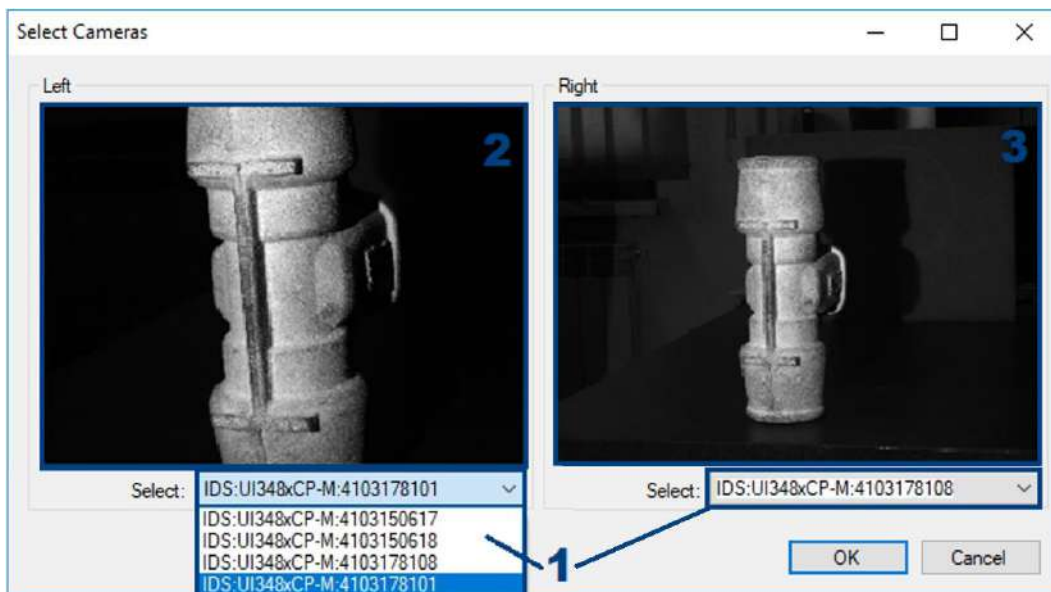
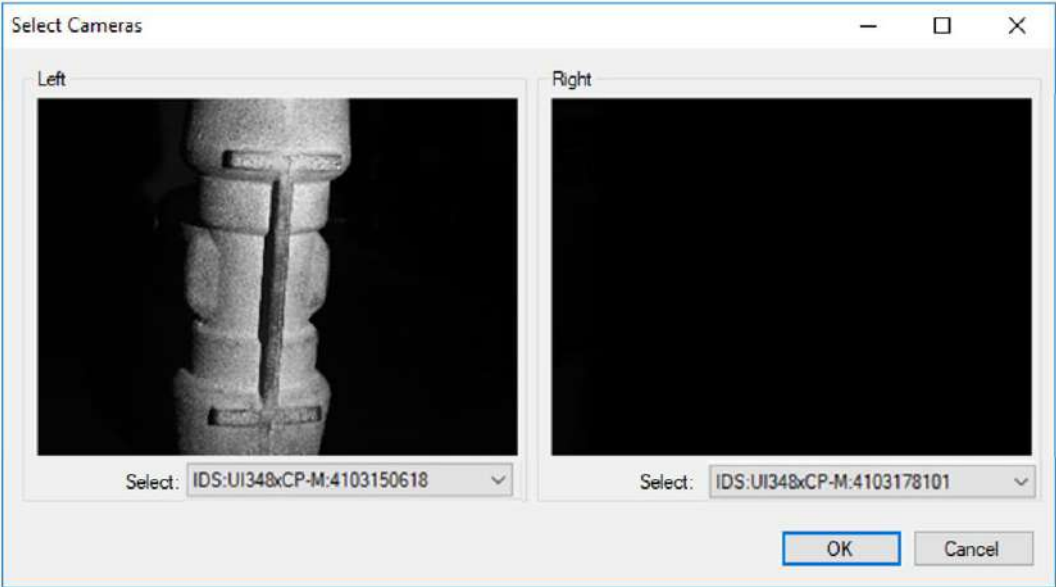

Fig. 5-45. View of the camera selection for a new scanner configuration, 1 - drop-down list of available cameras, 2/3 – preview of the selected camera image.
Fig. 5-47. Example of camera identification by covering sensor
The creation stage for a new scanner configuration boils down to identifying the left (2) and right (3) sensor. This is done by making a selection from a drop-down menu (1) on each side Fig. 5-45.
We can also identify the cameras by covering one of the cameras and analyzing the image of the sensor in Fig 5-45. marked as 2 and 3. For example, if you want to define the right inner range (PW) camera, cover to corresponding sensor, and then select from the list the number of the camera which view is obscured Fig. 5-47.